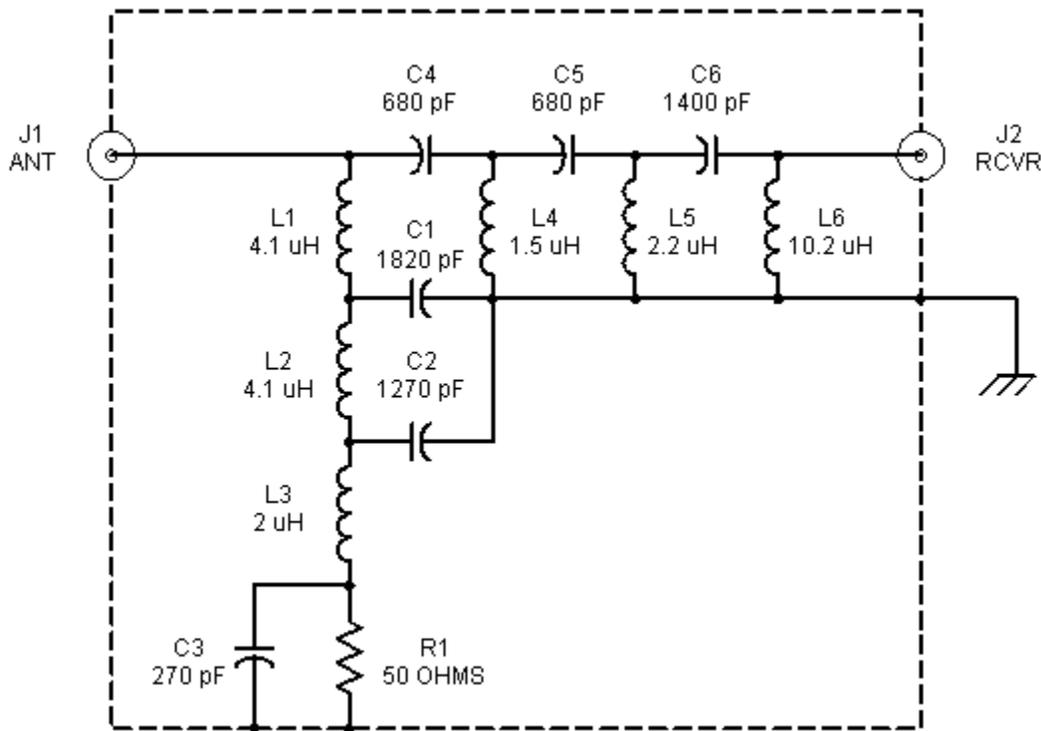

**FIG. 3**
**High-Pass Filters.** One very significant solution is to use a high-pass filter with a cut-off frequency between 1700 and 3000 Khz. It will pass the shortwave frequencies, and severely attenuate AM BCB signals in both MW and LW bands, causing the desired improvement in performance. Figure 3 shows a design used for many decades. It is easily built because the capacitor values are 0.001  $\mu$ F and 0.002  $\mu$ F (which some people make by parallelling two 0.001  $\mu$ F capacitors).
The inductors are both 3.3  $\mu$ H, so can be made with toroidal cores. If the T-50-2 RED cores are used ( $A_L = 49$ ), then 26 turns of small diameter enameled wire will suffice. Or if the T-50-15 RED/WHITE cores are used ( $A_L = 135$ ), then 15 turns are used. The circuit of Fig. 3 produces pretty decent results for low effort. A number of readers contacted me with success stories when this circuit was published once before, a result that gives me pleasure. But there is a better way....